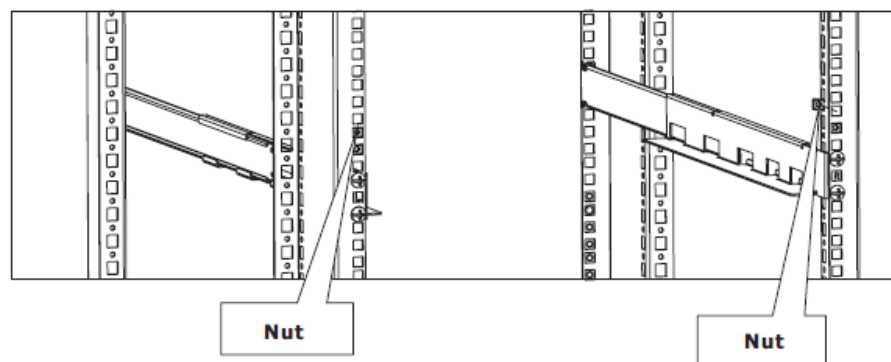

Figure 7
Step 3: Insert one M6 nut into the right and left front posts of the four-post rack for a 3U installation. Refer to Figure 7 below.